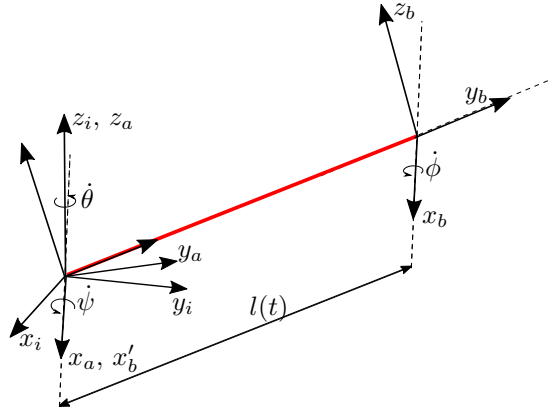

Figure 5: Abstraction of fire truck
**Solution:** One of the possible configuration is shown in Fig. 5. *Other configuration can also be correct. Important is to have a right-hand coordinate system and describe the rotation correctly in this frame.*